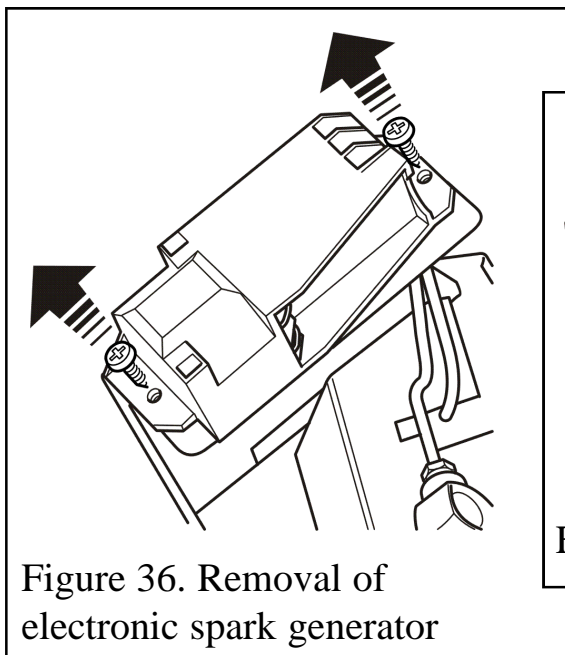

Figure 36. Removal of electronic spark generator
5. Unscrew the two fixing screws that attach the generator unit to the support bracket. The igniter generator can now be removed (See figure 36)